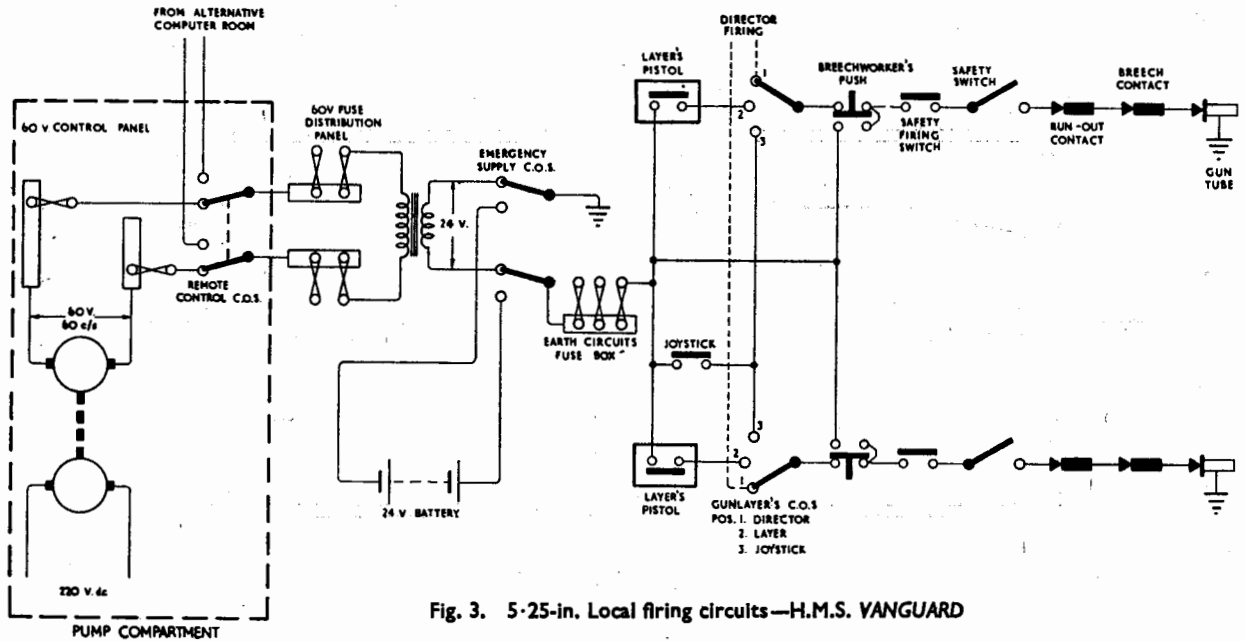

Fig. 3. 5-25-in. Local firing circuits—H.M.S. VANGUARD
3. The local firing circuit for the 5·25-in. Twin mountings in H.M.S. *Vanguard* are shown in Fig. 3. Power for the firing current is from a 60V 60 c/s d.c./a.c. motor generator set. The circuit for the right and left guns is common up to the gunlayer's (local) pistols via a control panel, remote/control change-over switch, 60V a.c. distribution panel, 60/20V transformer, emergency power supply change-over switch and a fuse in the earth-return fuse box. From the gunlayer's (local) pistols the circuit to each gun tube is independent. Facilities are provided for the firing of the gun by the breechworker by means of the breechworker's push. All the above components are sited on the mounting.